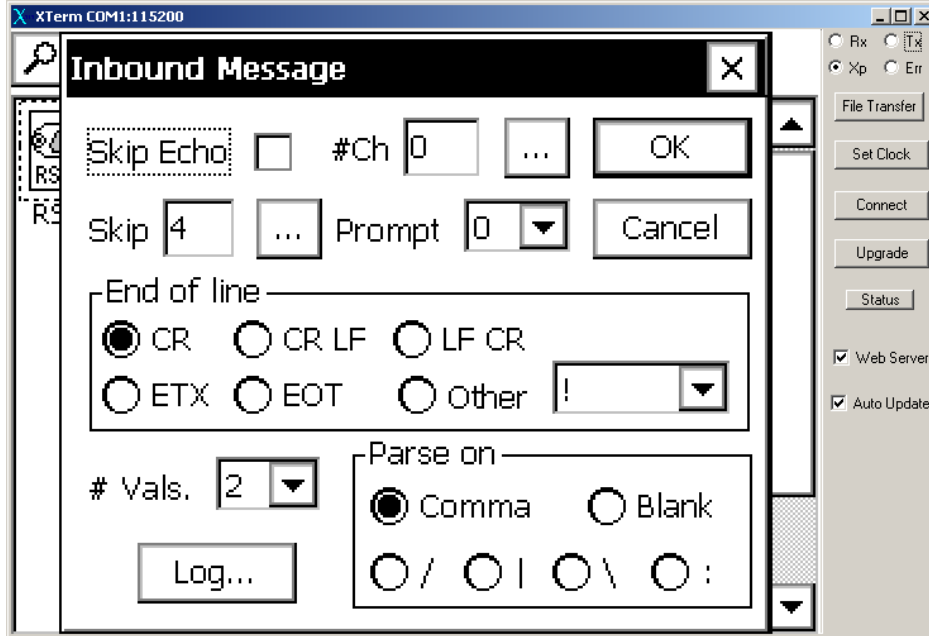

Figure C 15
Figures C 15 and C 16 illustrate the **In and Out** settings for the ULS. The ULS echoes the input command and requires that four (4) characters be skipped. The returned data values are separated by commas. The ULS uses carriage returns (CR) to terminate commands and responses. The **Get Data** command is **\$BM**.